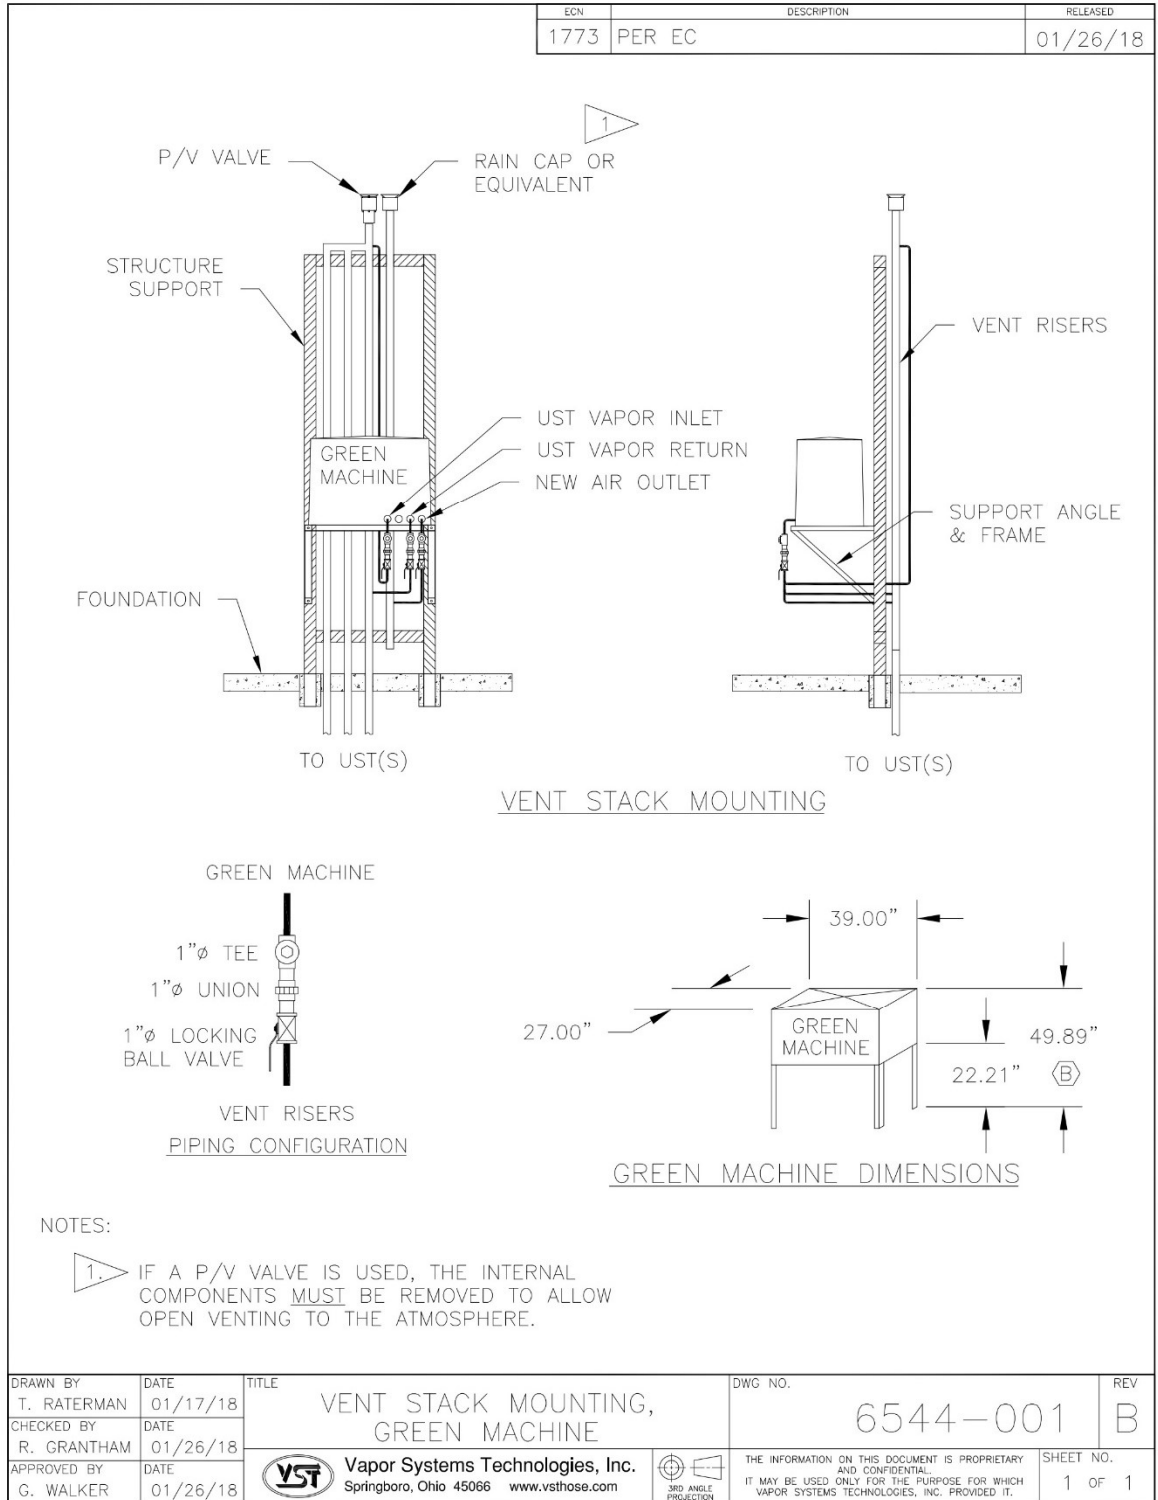

Figure 1-4: Vent Stack Installation
- **See Figure 1-4** for illustration.